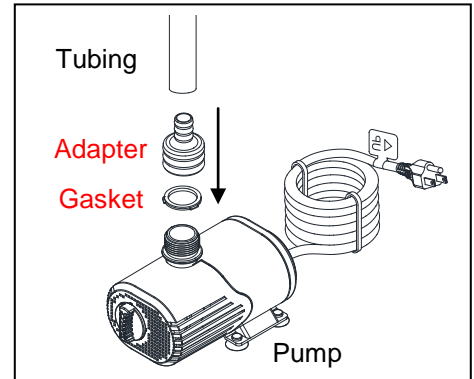

Fig. 1
1. Connect tubing to the outlet of the pump with the appropriate adapter and gasket. If use pump inside water, place the pump into the water and proceed to step 4, if using as an inline unit (out of water), proceed to the step 2. Fig. 1